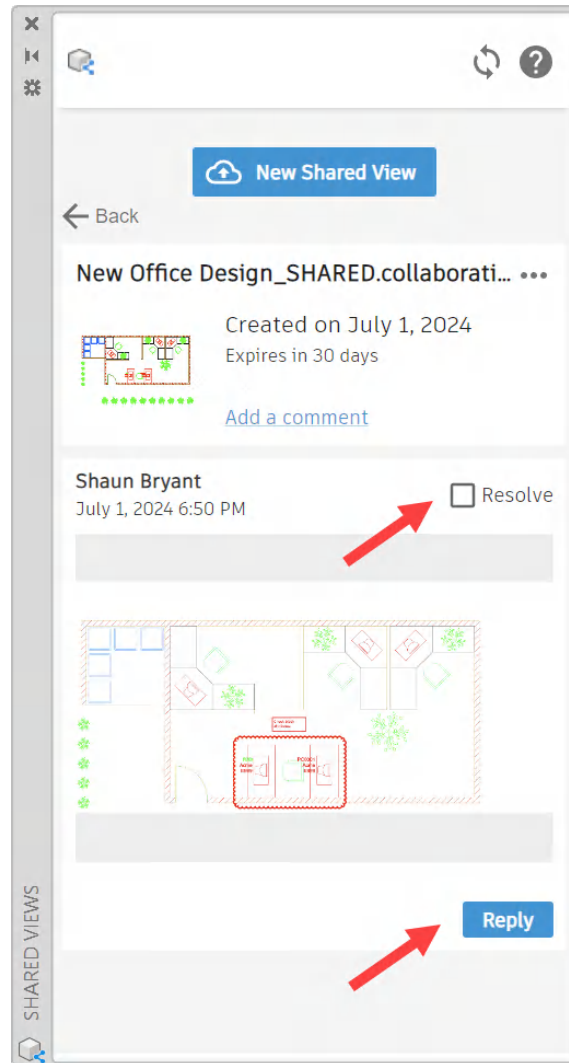

Figure 13.29: The Shared Views palette with comments displayed
7. Click on the comment, and the palette will expand the comment to show the markup detail you created in Autodesk Viewer in a thumbnail image, as shown in *Figure 13.29*.